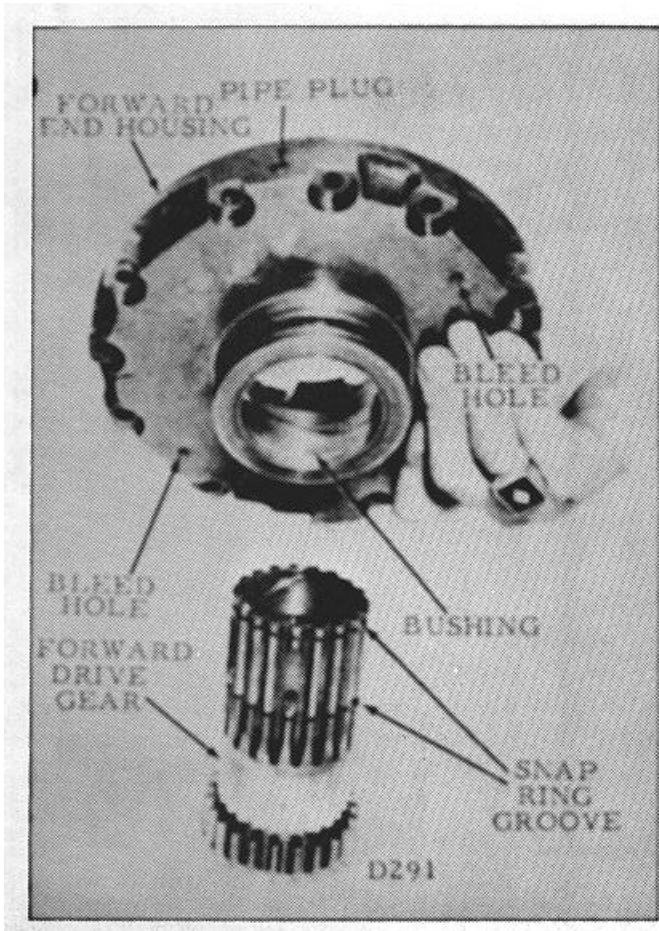
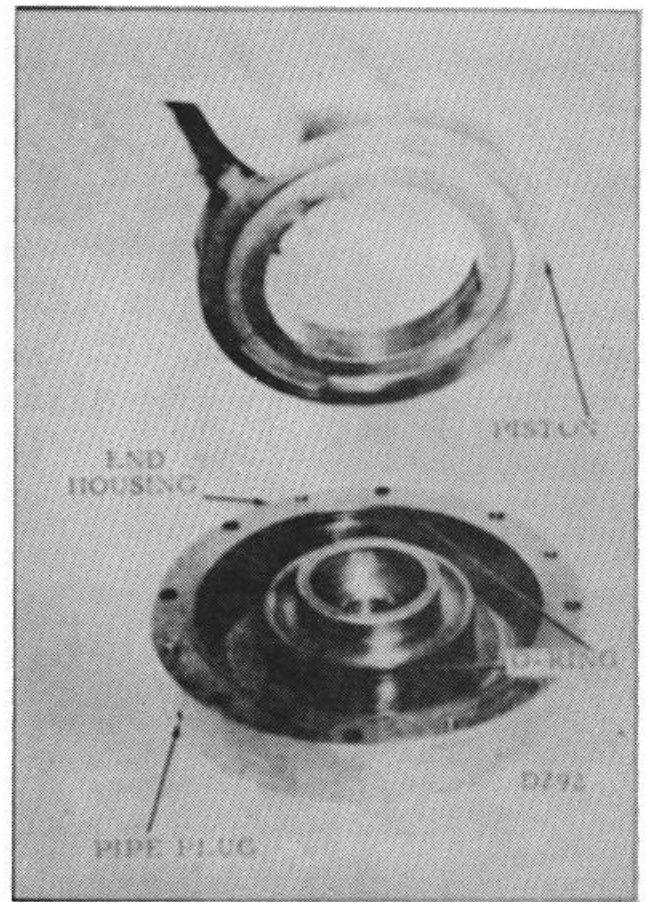

Figure 14.
Figure 15.
c. Remove the bottom snap ring (Fig. 13) and lift the end housing from the forward drive gear. (Fig. 14) The remainder of the pack, clutch discs, separator plates, springs, clutch rings, center separator and thrust
d. Remove the clutch pistons from the end housing. Extract the O-rings from each. (Fig. 15)
1. Place the piston in the forward-end housing, using new O-rings in the endhousing. (Fig. 15) Slide the forward-end housing over the forward gear. (Fig. 14) Secure the assembly with a snap ring.